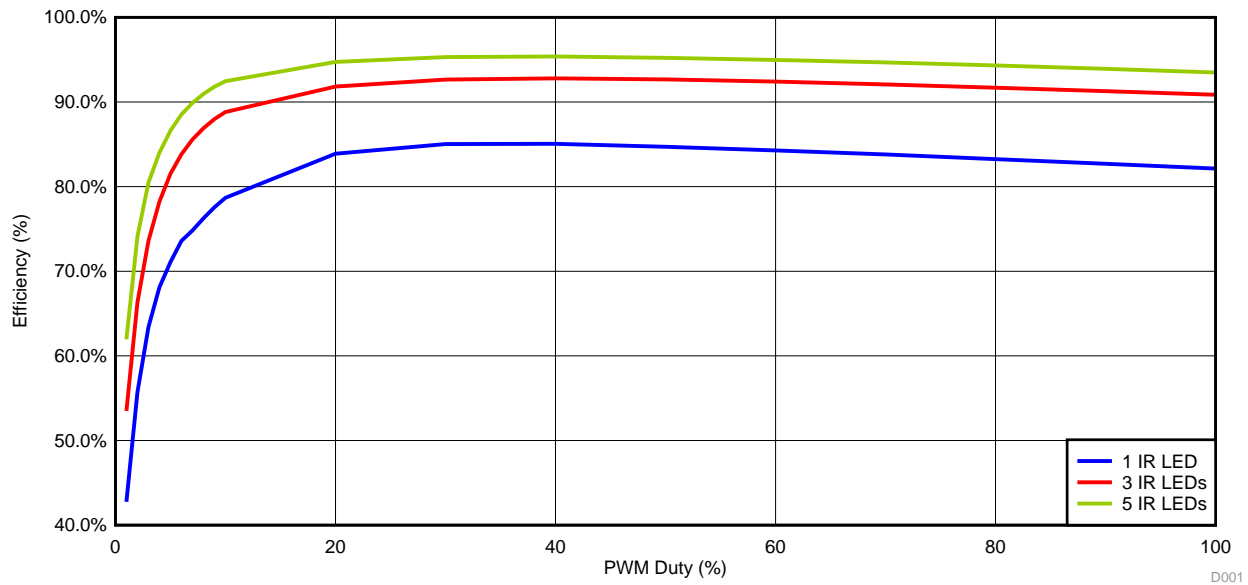

Figure 1. Efficiency vs. PWM Duty in Analog Dimming Mode, 1.5 A at 100% Duty, $V_{IN} = 12\text{ V}$
Figure 1 shows the efficiency versus PWM duty in analog dimming mode. The maximum LED current is 1.5 A when the PWM duty is 100%. $V_{IN} = 12\text{ V}$, and an infrared (IR) LED load is used. The typical forward voltage of an IR LED is 1.8 V at 1.5 A. The LED number in series is 1, 3, and 5, respectively.